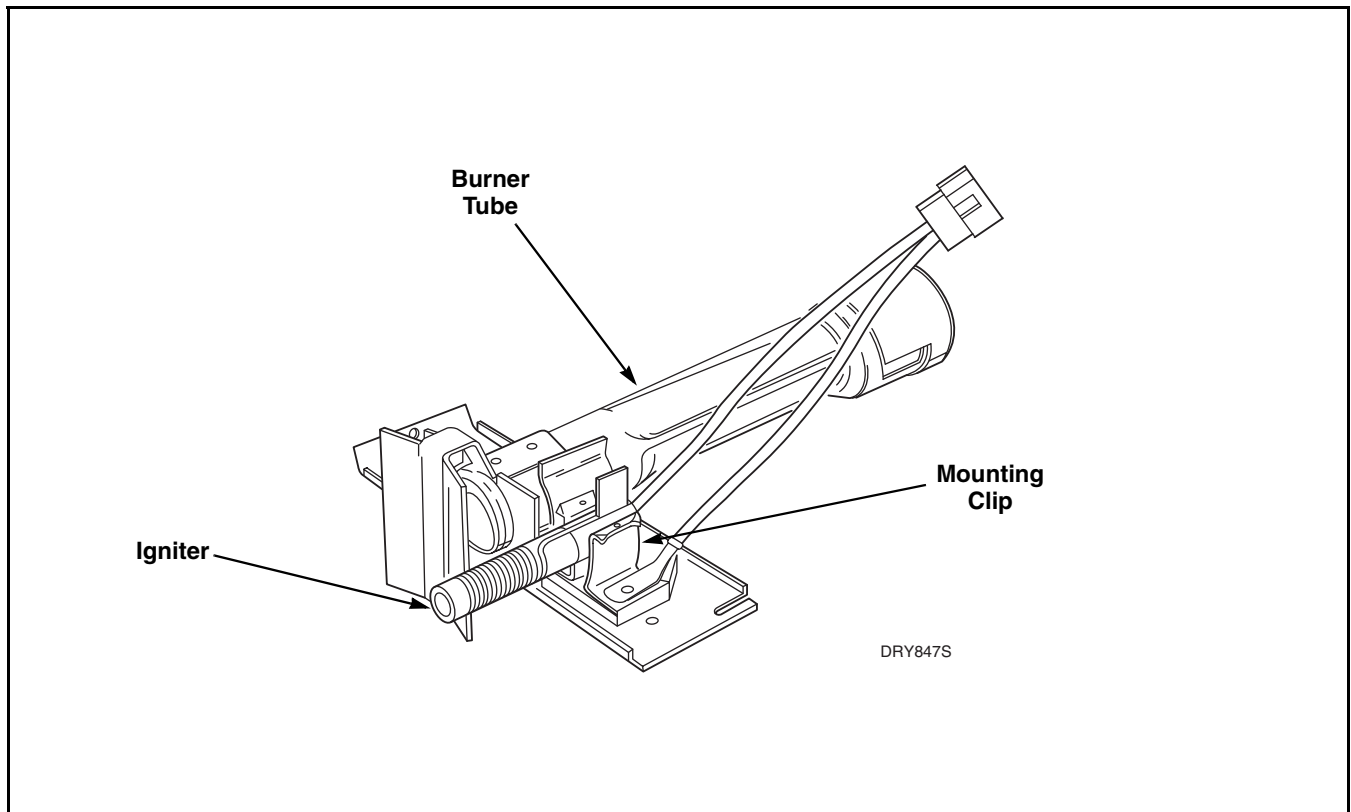

Figure 14
c. Igniter – Refer to *Figure 14*
- (1) Remove burner tube and igniter. Refer to *Paragraph b*, steps 1 through 4.
- (2) Carefully remove igniter by spreading mounting clips with a Tru-Arc pliers.